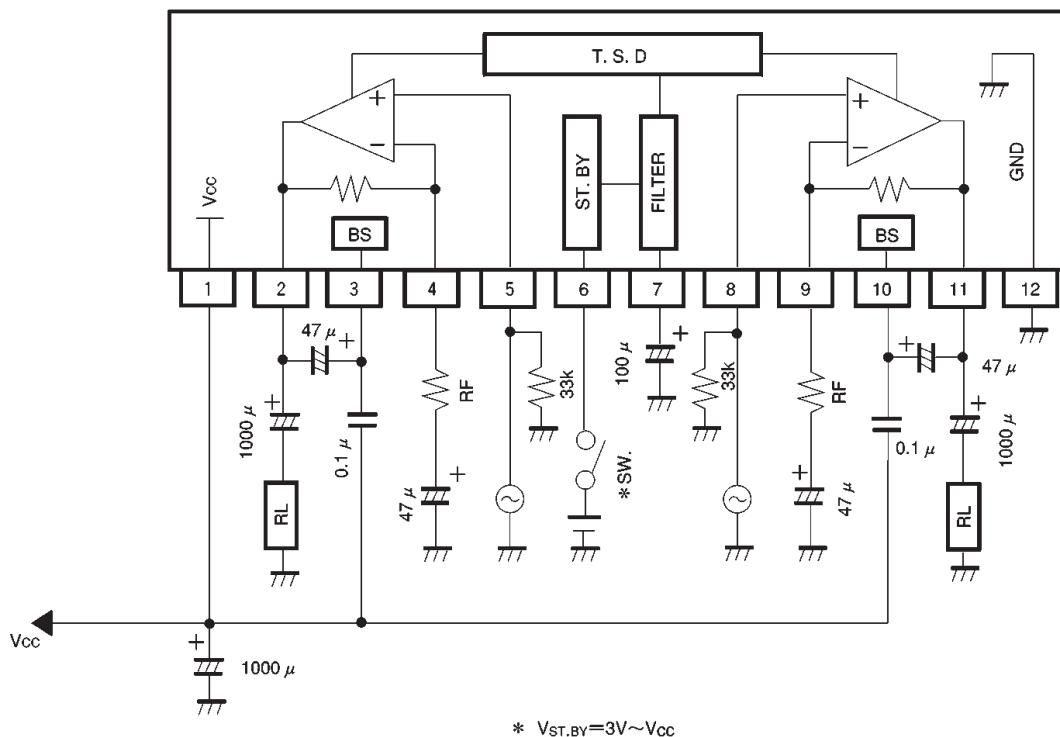

Fig.1
(10) Standard values for the DC voltages on each pin ($V_{cc} = 12V$, $T_a = 25^\circ C$, measurement circuit: Fig. 1)